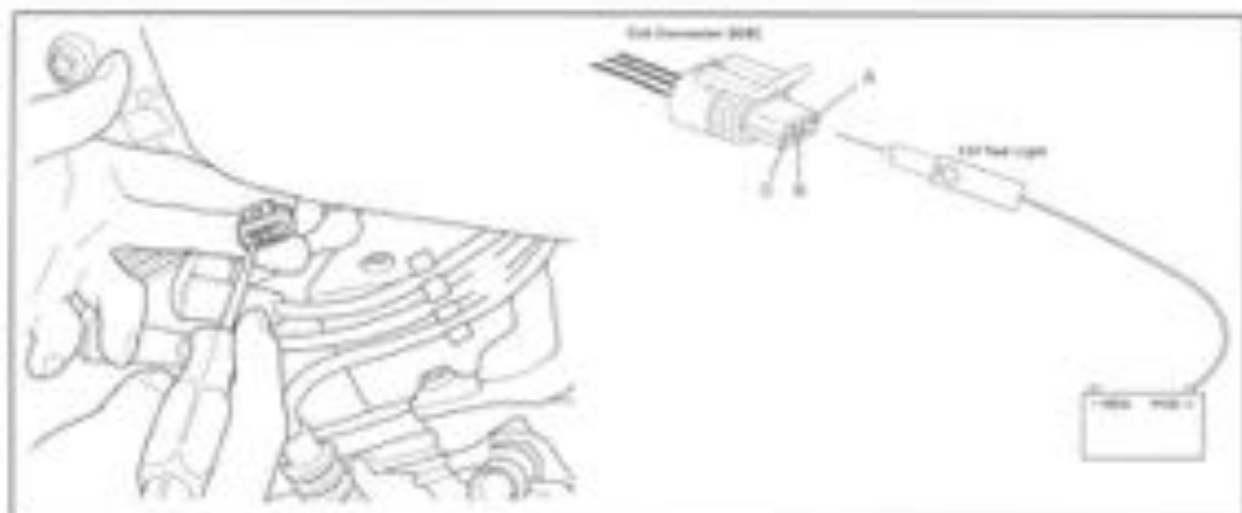

Figure 7-22. XL1200S Ignition Coil Test
- ① Use Test lamp as shown in Figure 7-22.
- ① Connect Breakout Box (4D-42682) between harness and Ignition Module. See Breakout Box Installation, page 7-18.
- ① Use Harness Connector Test Kit (4D-41404), gray pin probe and patch cord.